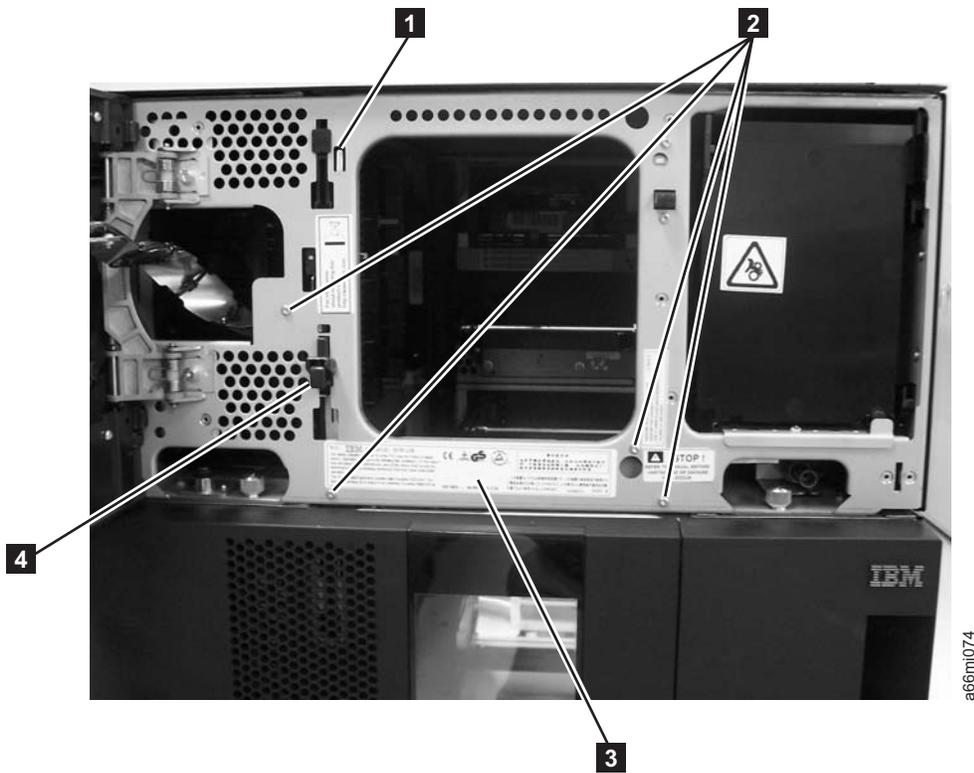

Figure 8-64. Four screws on front of door and plastic cable guide
- g. Remove the 4 screws (see **2** in Figure 8-64 on page 8-67) from the front of the door, holding the long plastic cable guide to the door.